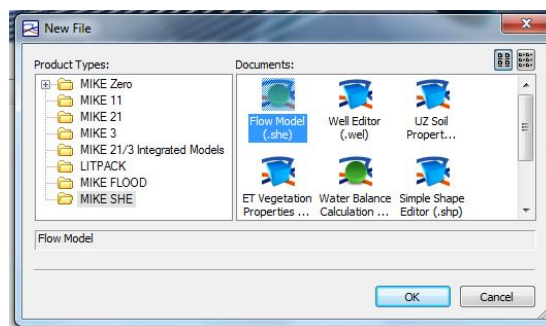

Figure 111: Creating a new MIKE SHE flow model
- File -> New -> File -> MIKE SHE -> Flow Model as in Figure 111.